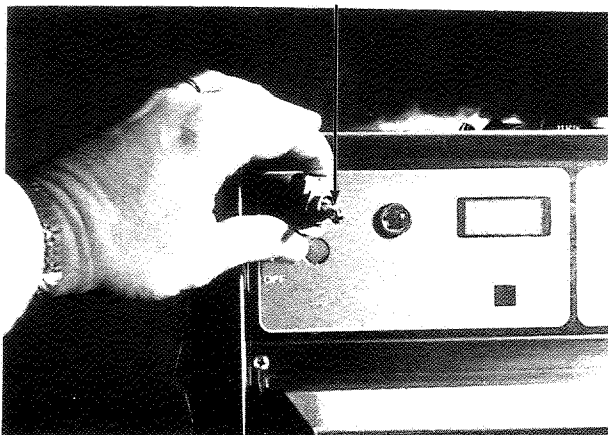

Figure 6
5. Remove the power switch. (See Figure 6)